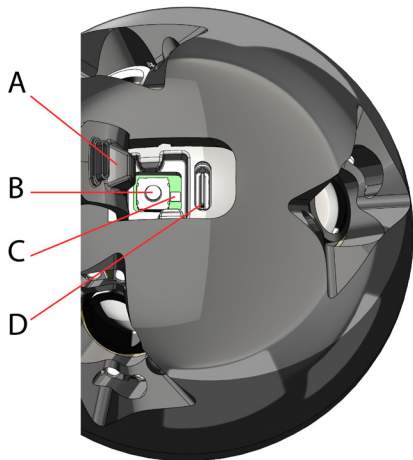

Fig 2. Controls view Recce360 Mini Mk2
- A. Power button/charger socket protection flap. When pressed this controls the power button. When the flap is lifted (see figure 2), it exposes the USB-C charging port and indicator LEDs.
- B. Orientation groove, a guide to quickly find the tether mount (C).
- A. Power button/charger socket protection flap. When pressed this controls the power button. When the flap is lifted (see figure 2), it exposes the USB-C charging port and indicator LED's.